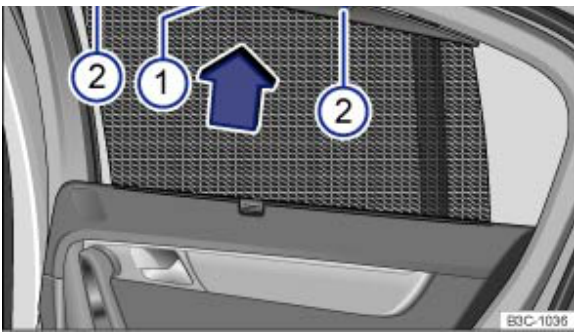

Fig. 92 In the rear right-hand window: sun blind
- Use the handle → *Fig. 92*  to fully pull up the sunblind.
- Hook both rings on the bar into the brackets → *Fig. 92* . Make sure that the sun blind is secured firmly in both brackets → *Fig. 92* .